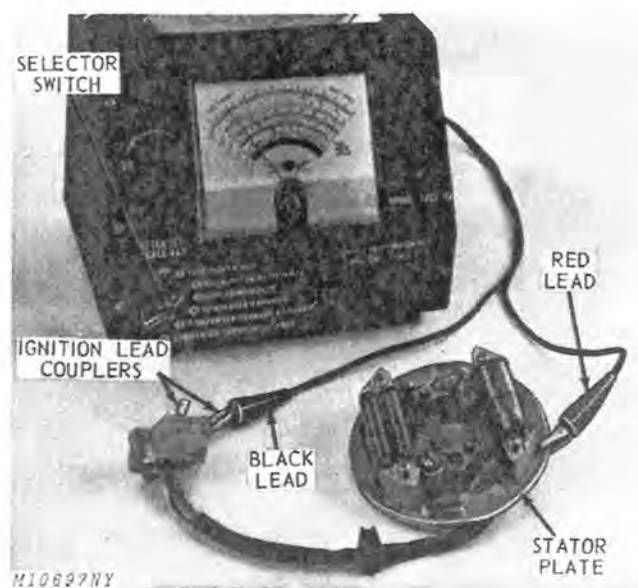

Fig. 17-Low Tension Circuit Resistance Test
2. Connect black test lead to the white ignition lead coupler and the red test lead to stator plate, Fig. 17.